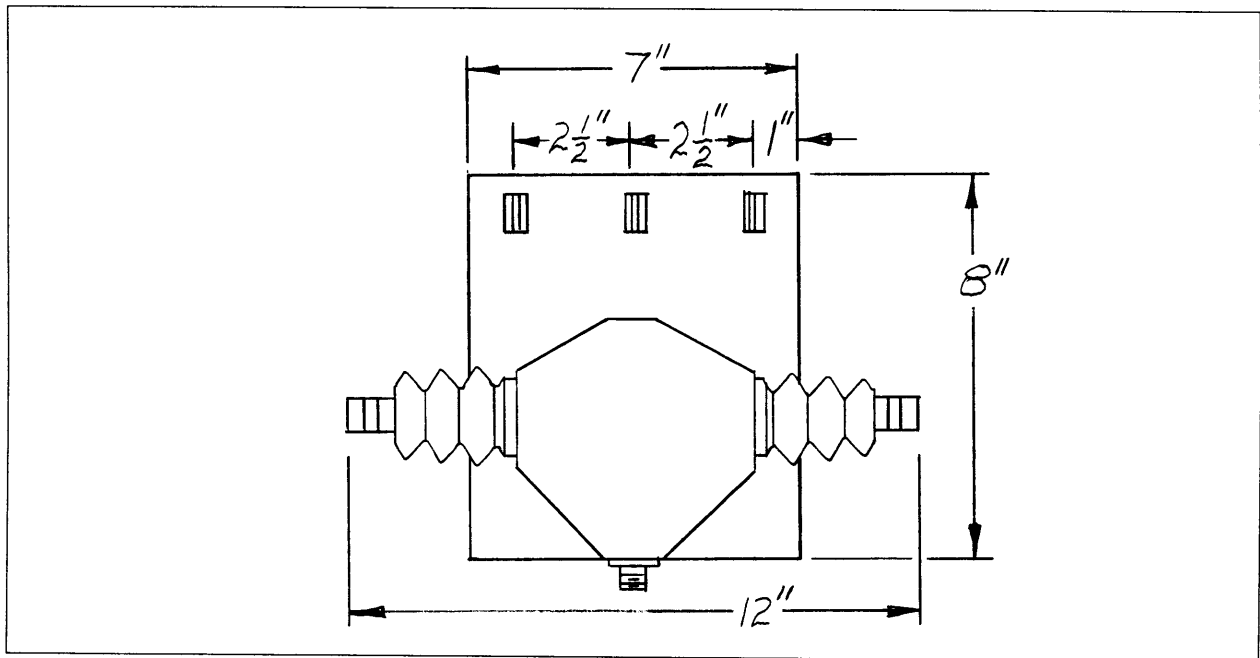

Figure 2.2 Outline Drawing with Mounting Dimensions
- Figure 2.2**    **Outline Drawing with Mounting Dimensions**